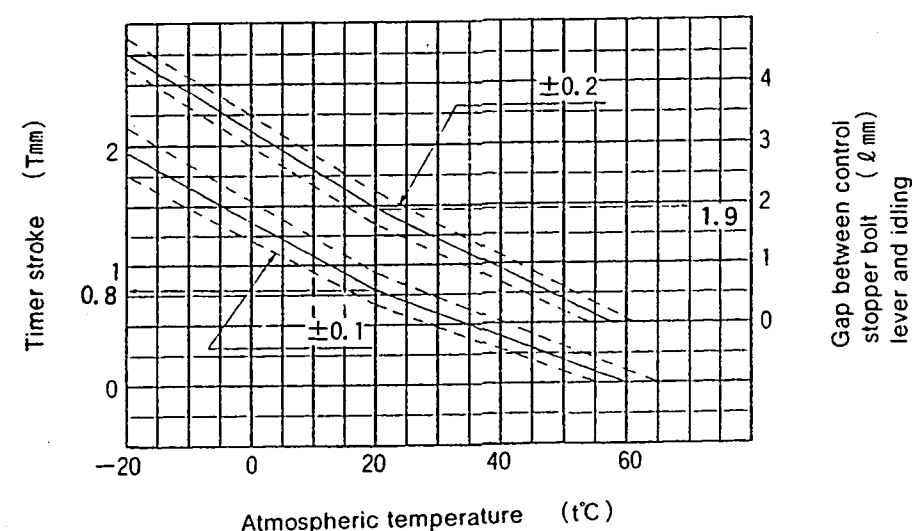

Fig. 2
1. Calculate the block gauge dimension  $\ell \pm 0.05$  mm from Fig. 2 according to the atmospheric temperature at the time of adjustment.
Formula for calculating Fig. 2